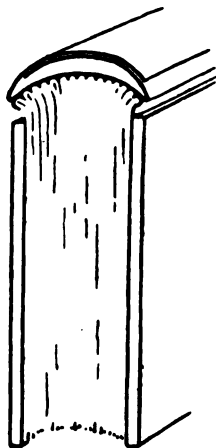

FIG. 78.
To make a hollow back, a piece of stout paper is taken which measures once the length of the back and three times the width. This is folded in three. The centre portion is glued to the back and well rubbed down, and the overlapping edges turned back and glued one to the other (fig. 78). This will leave a flat, hollow casing, formed by the single paper glued to the back of the book and the double paper to which the vellum may be attached. Or it is better to line up the back with leather, and to place a piece of thick paper the size of the back on to the pasted vellum where the back will be when the book is covered.
**Books Covered with Embroidery and Woven Material** To cover a book with embroidered material bind it with split boards, a French joint, and a hollow back, as described for vellum (see fig. 78). Glue the back of the book with thin glue well worked up, and turning in the head and tail of the embroidery, put the book down on it so that the back will come exactly in the right place. Press down the embroidery with the hand to make sure that it sticks. When it is firmly attached to the back, first one board and then the other should be glued, and the embroidery laid down on it. Lastly, the edges are glued and stuck down on the inside of the board, and the corners mitred. Velvet or any other thick material can be put down in the same way. For very thin material